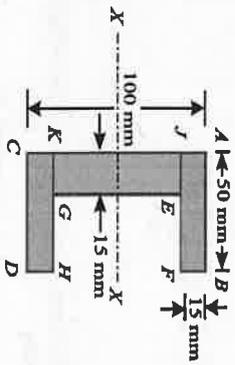

Fig. 18
- 6 Find the centre of gravity of a channel section 100 mm × 50 mm × 15 mm as shown in Fig. 18